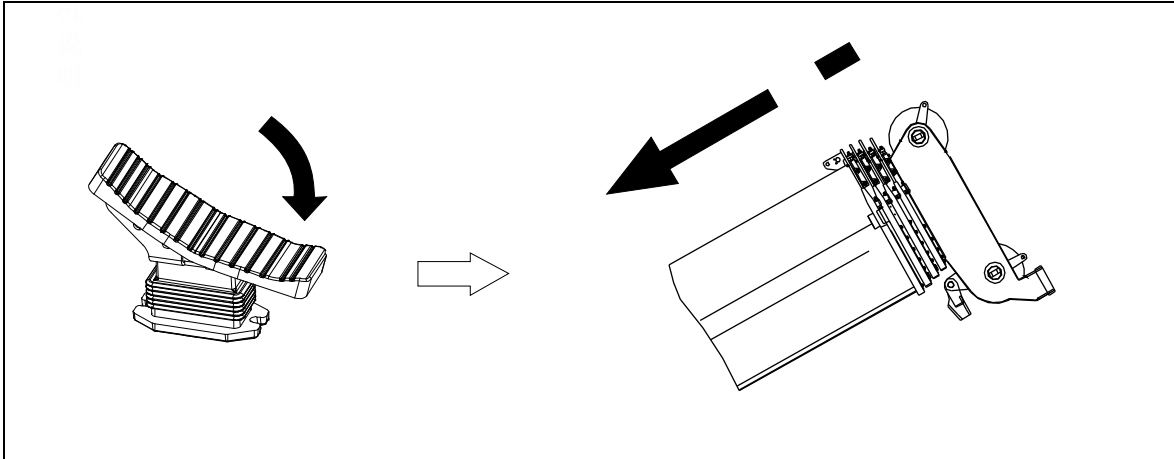

Figure 7-14 Telescopic Sections – Retract
- A. Tilt the pedal backward to retract the telescopic sections 1, 2 and 3. Refer to Figure 7-14.